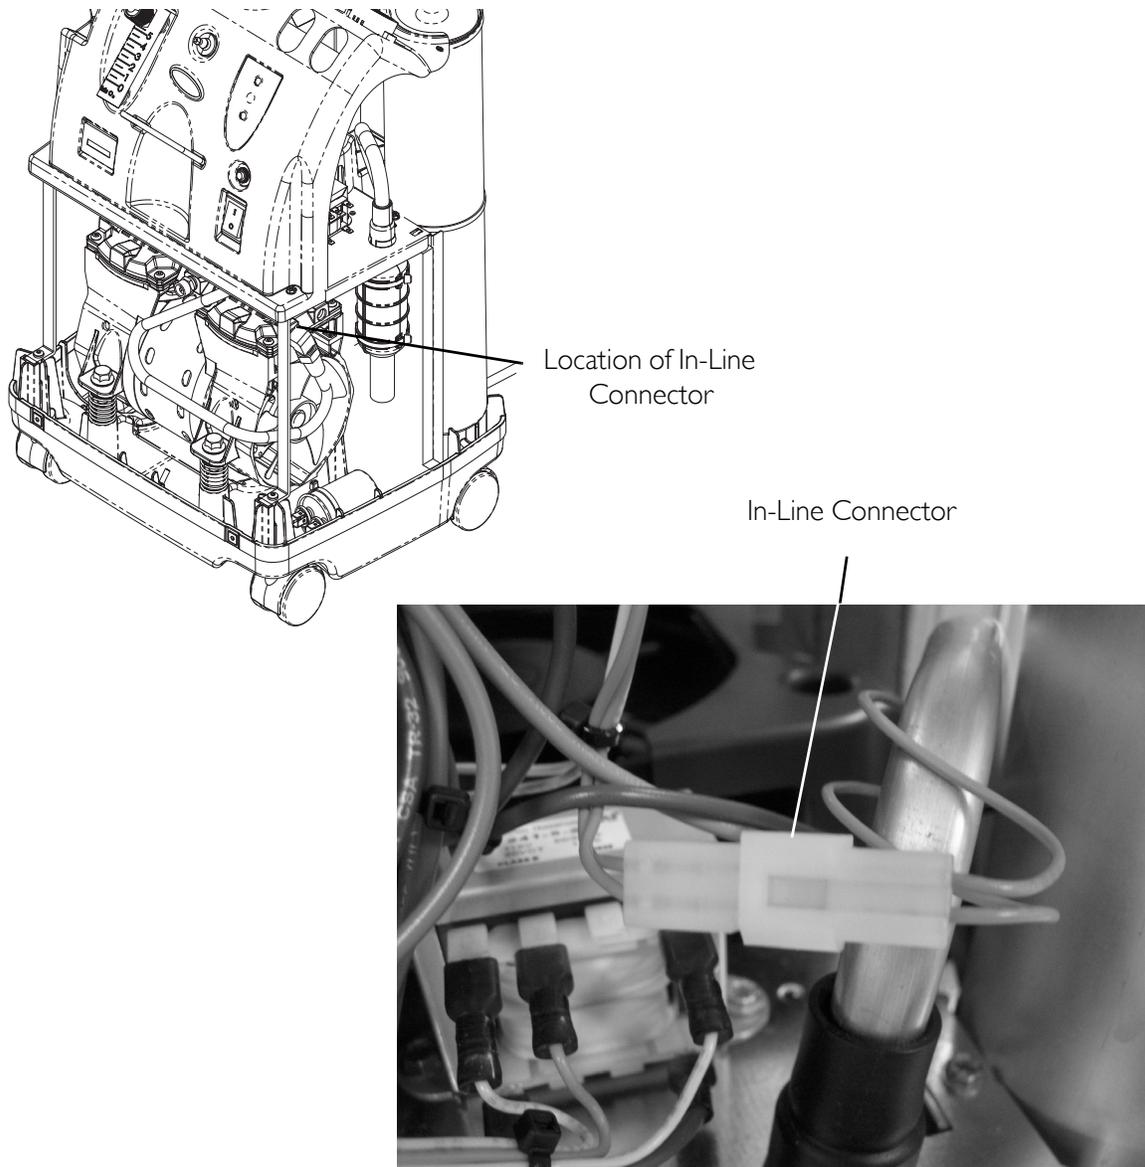

FIGURE 24.2 High Pressure Test
NOTE: For this procedure, refer to FIGURE 24.2 on page 81.
1. With the unit running and flow set at 5 L/min., disconnect in-line connector shown in FIGURE 24.2.
2. The main valve coil alarm should activate within 40 seconds. Refer to SensO2 Alarm Threshold on page 82 for shutdown mode (FIGURE 24.2).